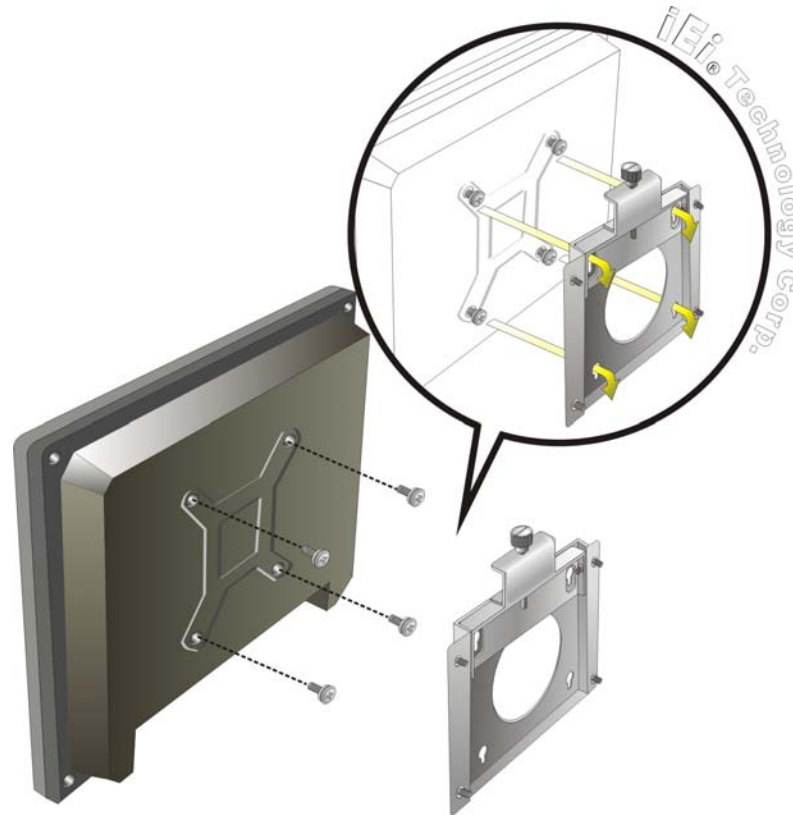

Figure 3-11: Chassis Support Screws
- Step 6:** Insert the four monitor mounting screws provided in the wall mounting kit into the four screw holes on the rear panel of the flat panel PC and tighten until the screw shank is secured against the rear panel (**Figure 3-11**).
- Step 8:** Carefully insert the screws through the holes and gently pull the monitor downwards until the monitor rests securely in the slotted holes (**Figure 3-11**). Ensure that all four of the mounting screws fit snugly into their respective slotted holes.